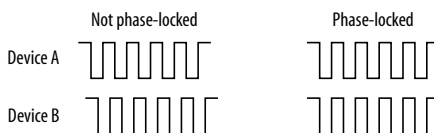

Figure 4-6: When transferring audio, two devices must have phase-locked audio clocks to prevent clicks, pops or other artifacts.
- Synchronizing the MOTU 828 with other digital audio devices so that their digital audio clocks are *phase-locked* (as shown in Figure 4-6)